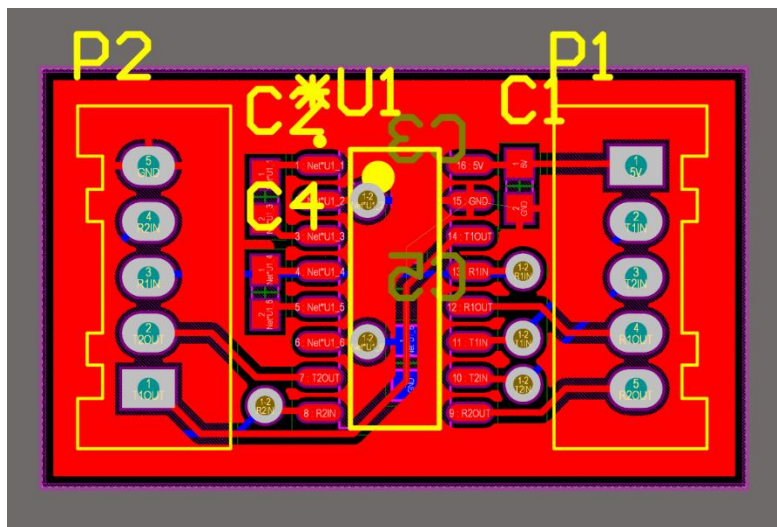

Figure 12: Properly Defined Polygon
14. You should now see something similar to Figure 12.